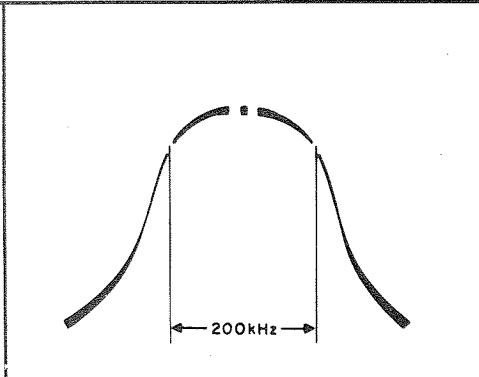
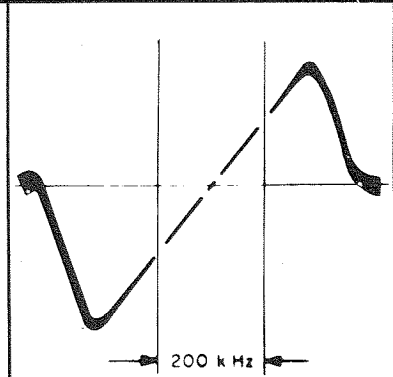

Figure 5.
Figure 6.
(6) Increase generator level to full output (approximately 100,000 μ V). If necessary, slightly readjust top core of Z305 to center 10.7 MHz marker (see Figure 5).
(7) Reconnect the jumper lead to FM Test Point 301 (pin 3N on AM/FM IF, MPX board) removed previously. Disconnect the 82k resistor across scope input connected previously.
(8) Reduce generator sweep to zero (sweep off). Adjust FM METER ADJ. pot. R328 (on AM/FM IF, MPX board) for front panel tuning meter reading of 4.5.
(9) Connect vertical input of scope to Test Point 3M (on AM/FM IF, MPX board). Use same scope sensitivity setting (100mV/cm).
(10) Adjust generator level and sweep to observe detector "S" curve. Adjust bottom core of Z306 first, then top core for maximum gain and symmetry (see Figure 6).
(11) Connect DC VTVM to Test Point 3M. Use 1.5 volts DC meter scale or lower.
(12) Readjust top core of Z306 for zero (0) reading (within ± 0.2 volt) on DC VTVM.